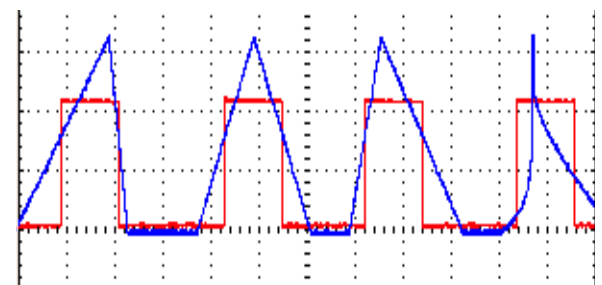

Figure 12a: Half-Rise Gate
- Half-Rise outputs a gate that goes high when 50% of the envelope's rise time has elapsed. It goes low when 50% of the fall time has elapsed. It is high during a sustain segment, and stays low when the envelope is not running. System Mode selects whether it outputs gates or triggers. See *Figure 12a*.